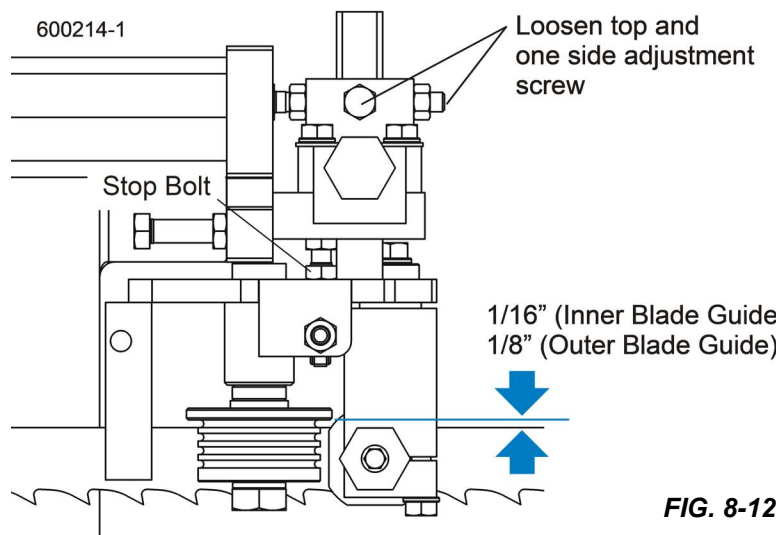

FIG. 8-12
1. Swing a side support down and measure between the face of the support and the main bed tube. See FIG. 8-12.